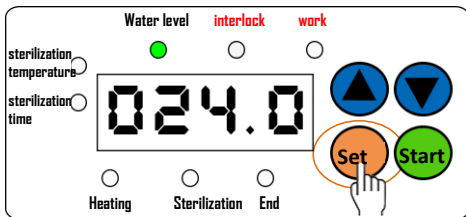
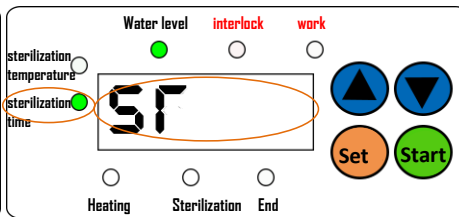
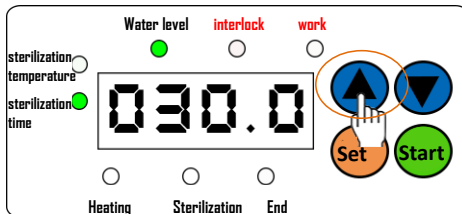
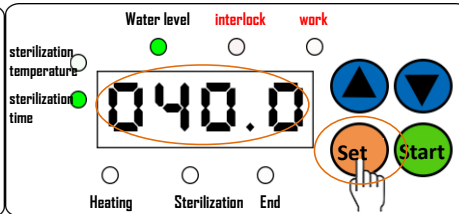

Fig. 13
Fig. 14
Fig. 15
Fig. 16
② Set the sterilization time: press the setting key (SET) on the control panel (see Fig.13) to turn on the sterilization time indicator. When ST (see Fig.14) appears in the display window, press the up and down keys (▲▼) (see Fig.15) to adjust the time. After the adjustment, press the setting key twice in succession to confirm the storage of new sterilization time data (see Fig.16).